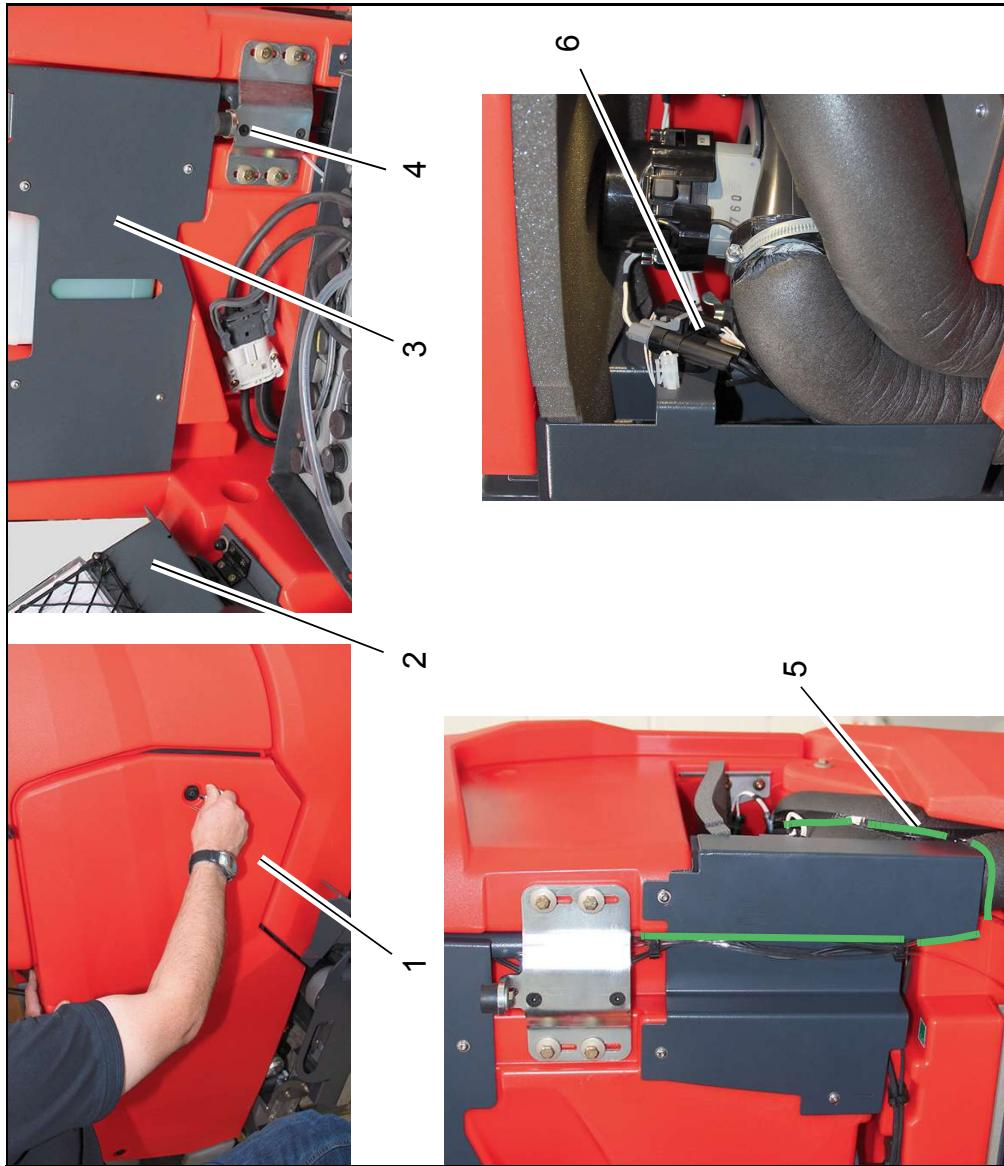

Fig. 2
1. Remove side paneling with provided wrench (Fig. 2/1).
2. Swivel seat console upwards as far as it will go (Fig. 2/2).
3. Remove cover (Fig. 2/3).
4. Unscrew holder (Fig. 2/4).
6. Fit holder (Fig. 2/4) so that the seat console is straight when it is swivelled down!
7. Fit the cover (Fig. 2/3).
8. First lead the cable of cable loom W 65 on the outside along the cover plate, then lead beneath the cover plate into the suction turbine area (Fig. 2/5).
9. Connect plug X65 of cable loom W 65 to plug of W 3 with the same name. Attach plug to plate with cable ties (Fig. 2/6).